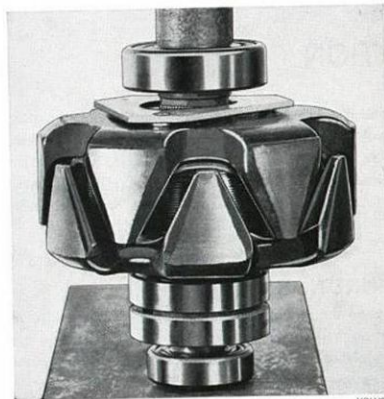

Fig. 3-17. Fitting bearings
2. Press the bearing in with the help of a tubular sleeve which presses on the bearing inner ring, see Fig. 3-17.